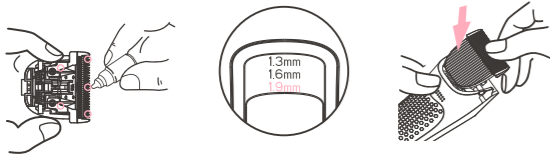

FIGURE 1
- After cleaning, apply tiny drop lubricant oil on the high light area of the blades, which shown on figure 1 (Must hear a "click" sound and then into alignment with the slot in order to determine exactly loaded.)